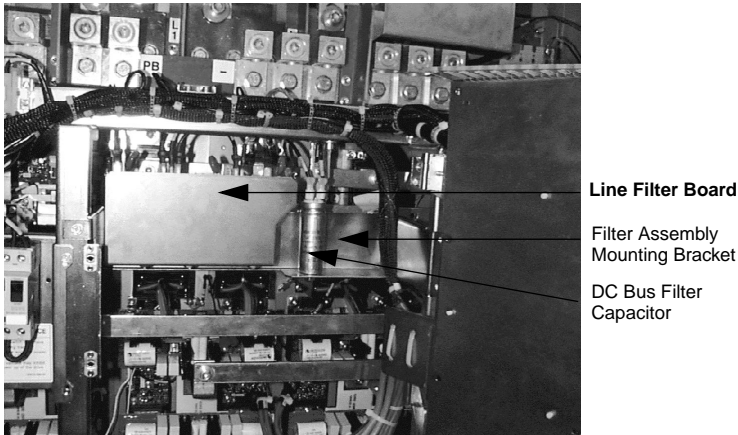
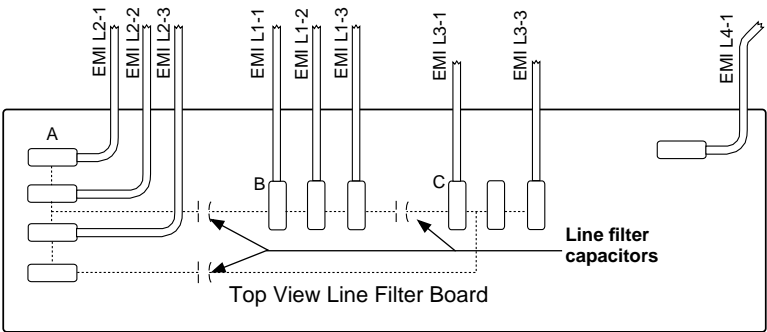

Figure 4.3.14: Line Filter Board
Figure 4.3.16: Line Filter Board Connectors
- Line filter boards. Refer to Figure 4.3.14 on page 4.3.22 and Figure 4.3.16 on page 4.3.24 for location.
6. Follow the wiring diagram in Figure 4.3.16 on page 4.3.24 and noting the wire labeling, reconnect the 9 wires to the filter board.
7. Once the wiring has been connected to the filter board, an ohmmeter check should be made from points A to B, B to C, and C to A of Figure 4.3.16. The ohmmeter should initially indicate a low resistance. The resistance should gradually increase over a period of 5–10 seconds as the filter and bus capacitors with the drive controller charge.